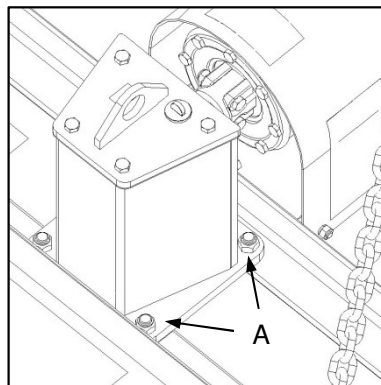
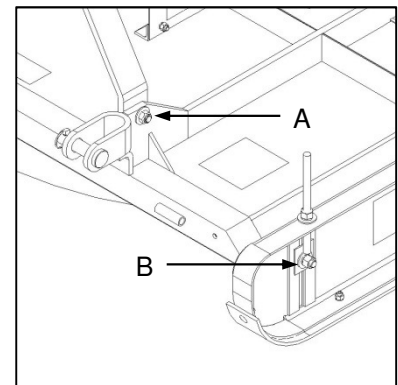

Fig. 2
Fig. 3
B), gearbox mounting bolts (Fig. 2-A), topmast mounting and pivot bolts (Fig. 3-A) and side panel retaining bolts (Fig. 3-B).
monteerboutte (Fig. 1-B), ratkas monteerboutte (Fig. 2-A), topmasmonteer- en -spilboutte (Fig. 3-A) en sypaneel monteerboutte (Fig. 3-B).